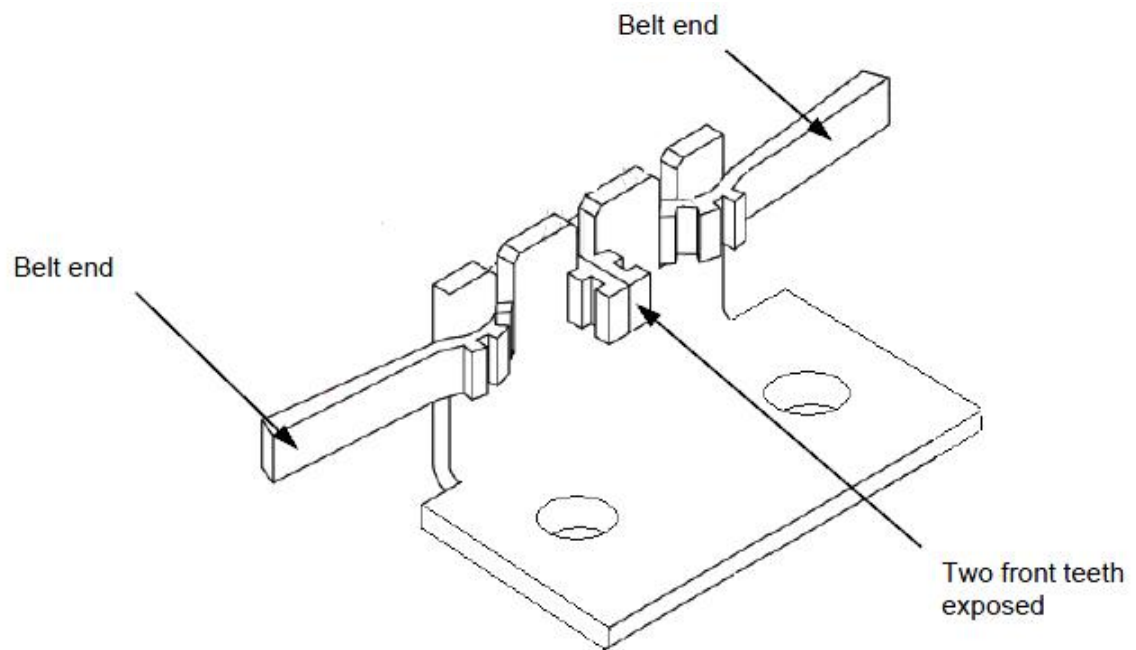

Figure N-23: Installing Belt in Belt Bracket
The Belt route is shown in Figure N-23. To take the existing belt from the reader belt, remove the pulley from the motor and remove the belt.
2. Install the cut belt into a Belt Bracket (Figure N-23). Install the belt such that there are two front teeth exposed and four back teeth between slots.